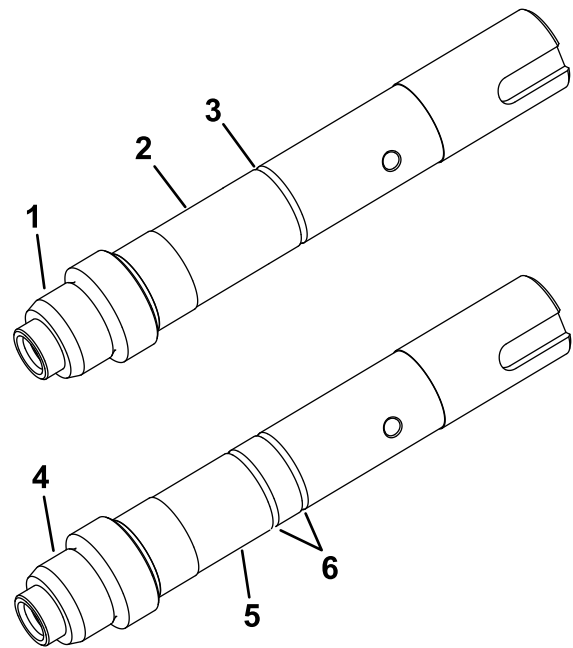

Figure 2
1. Use the following figures to identify the new spindle shaft and oil-seal guard (Figure 2 and Figure 3).